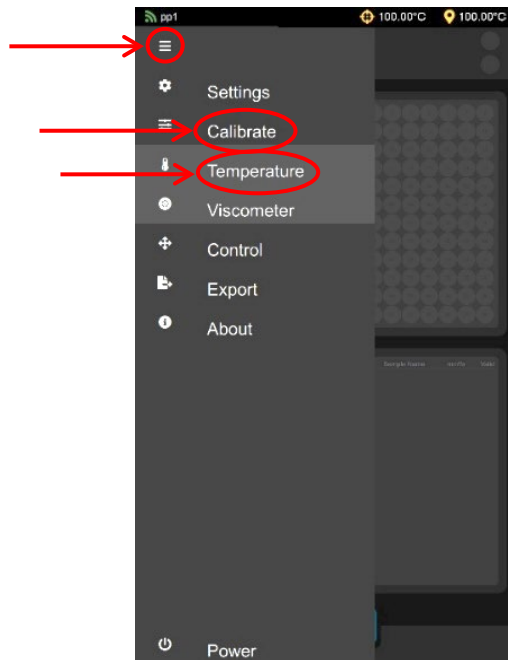

Figure 16: Calibrate Temperature
4. Return to the main menu by using the back arrow key in the upper left-hand corner. Then, navigate to the temperature calibration screen. See Figure 16.